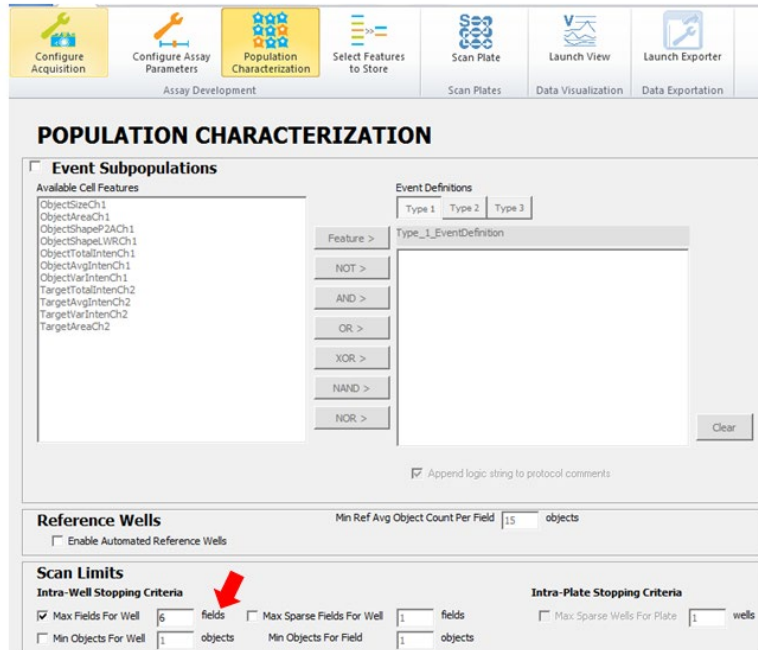

Figure 8. Population Characterization tab. Arrow: Set limit for fields to acquire per well.
4. Click on the “insert plate” symbol (**Figure 8 A**) to move the microplate tray out of the instrument. Place the plate in the microplate tray with well A1 pointing towards you. Press on the “Ctrl” key and click “Okay” simultaneously to move the tray back into the instrument.
5. The following conditions are used for image acquisition (see also **Figure 8 B**):
7. Acquire image in channel 1 (Hoechst) using **Software Autofocus** (**Figure 8 C**). Verify in pixel intensity histogram (**Contrast Controls, Modify Contrast Settings, Figure 8 D**) that signal is well within the dynamic range of the camera.
9. Collect image in channel 2 (PFF) using **Acquire Image** or **Acquire Image Set** (**Figure 8 C**) and adjust exposure time to achieve a good dynamic range as above.